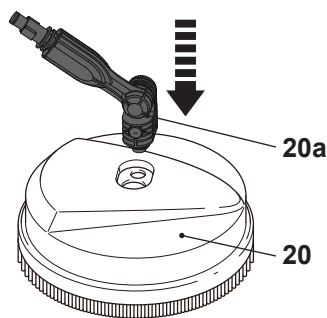

Fig. 24
- > Align the angle connector (20a) to the top of the patio brush (20) and the rotating nozzle (20b) to the bottom side (Fig 24).